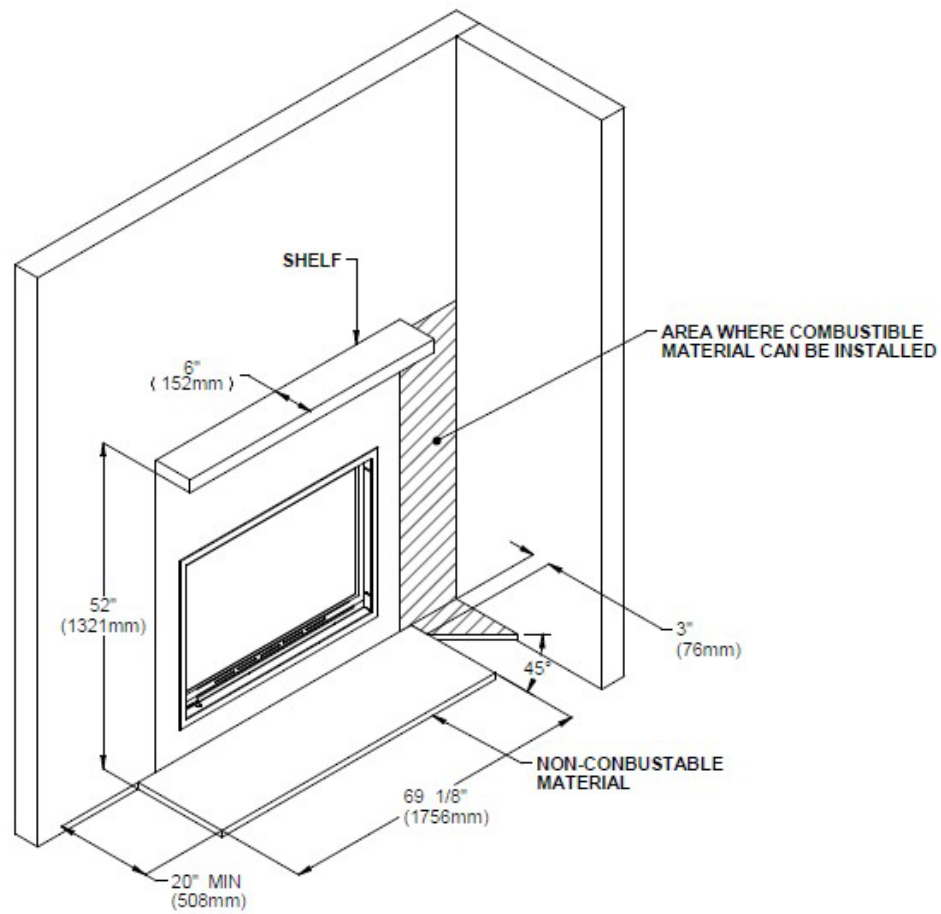

Figure 7
The construction of the framing, facing, and mantel must be in accordance with the standards and the following illustrations (**Figures 7 à 14**):
1. Materials directly in contact with the faceplate of the fireplace, especially the vertical and horizontal surround, must be non-combustible and have the minimal dimensions as shown on **Figures 7 and 8**.